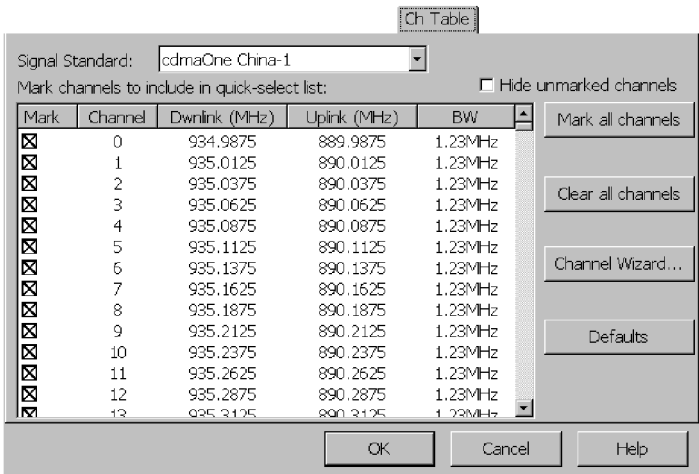

Figure 2-15: The Channel Table tab
2. Tap the **Ch Table** tab. See Figure 2-15. Channels are enabled according to the signal standard. Therefore, you must select the signal standard before you enable the channels within that standard.